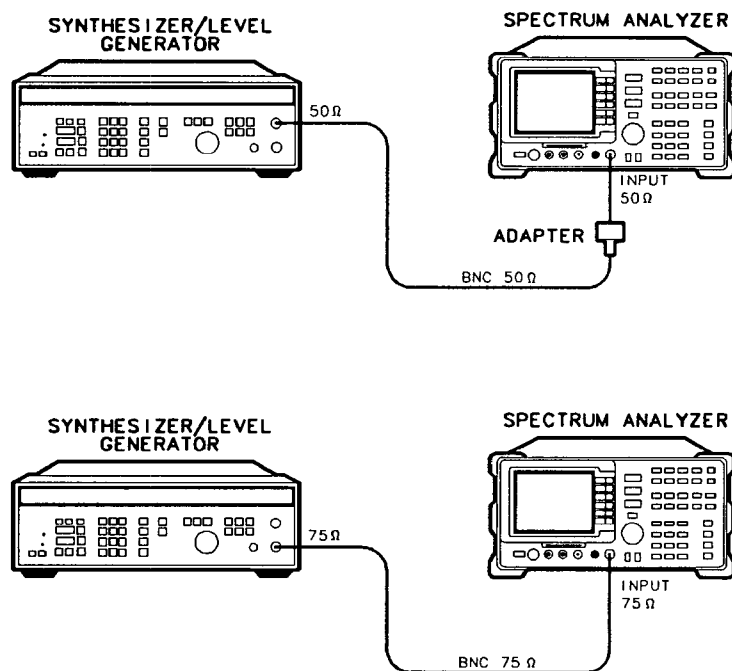

Figure 2-28. Frequency Response for 4 MHz Setup
- Using a cable, connect the HP 3335A directly to the INPUT 50Ω. See Figure 2-28.
(Option 001: Using a 75Ω cable, connect the HP 3335A from the 75Ω OUTPUT to the INPUT 75Ω. Set the HP 3335A 50–75Ω switch to the 75Ω position. See Figure 2-28.)